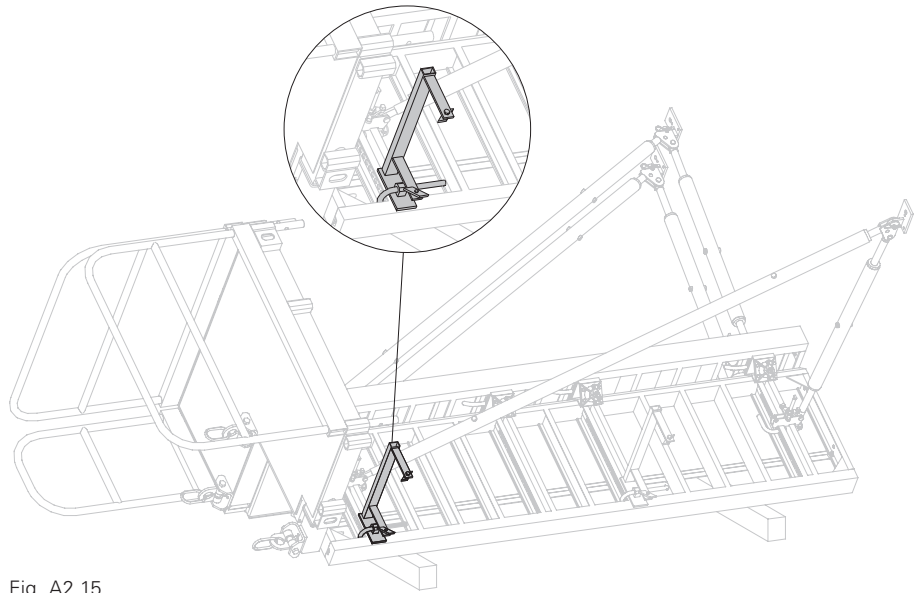

Fig. A2.15
1. Place ladder connector on the frame and fix by means of bolts in the perforated strip. (Fig. A2.15)